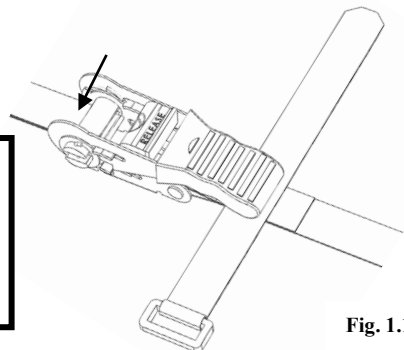

**Fig. 1.14**
- l.** Once the Angle Braces are in the desired location, open and close the ratchet handle 1 or 2 times to begin tightening the system (Fig1.14). **Do not over tighten the system so tight that you cannot make any adjustments to the placement of the Angle Braces.**